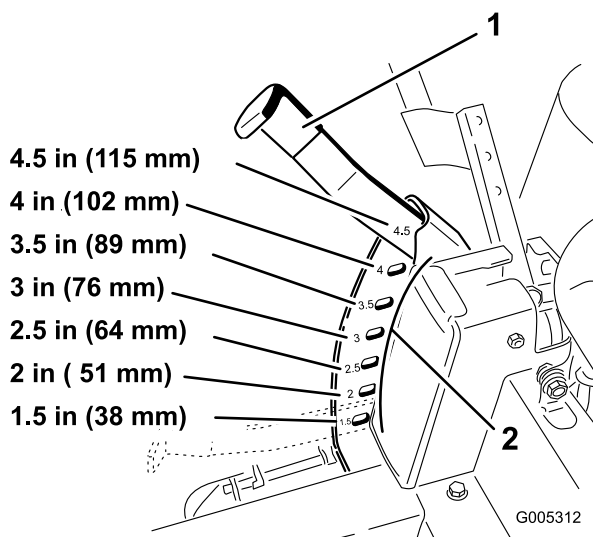

Figure 16
1. Raise the height-of-cut lever to the transport position, cutting height position 4.5 (also the 4-1/2 inch [115 mm]) (Figure 16).